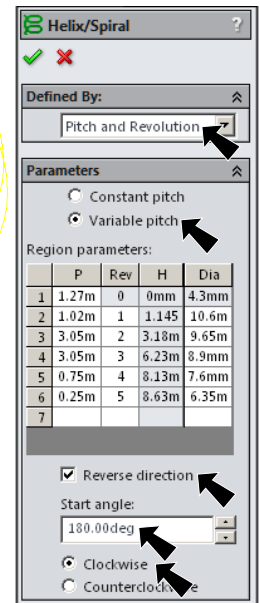

Fig. 3
Step 3. In the Helix/Spiral Property Manager under Defined By: **Fig. 3** select **Pitch and Revolution** under Parameters select **Variable Pitch** under Region Parameters set: